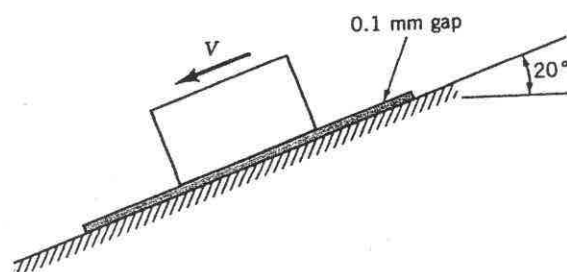

FIGURE P1.80
1.80 A 10-kg block slides down a smooth inclined surface as shown in Fig. P1.80. Determine the terminal velocity of the block if the 0.1-mm gap between the block and the surface contains SAE 30 oil at 60 °F. Assume the velocity distribution in the gap is linear, and the area of the block in contact with the oil is 0.1 m².